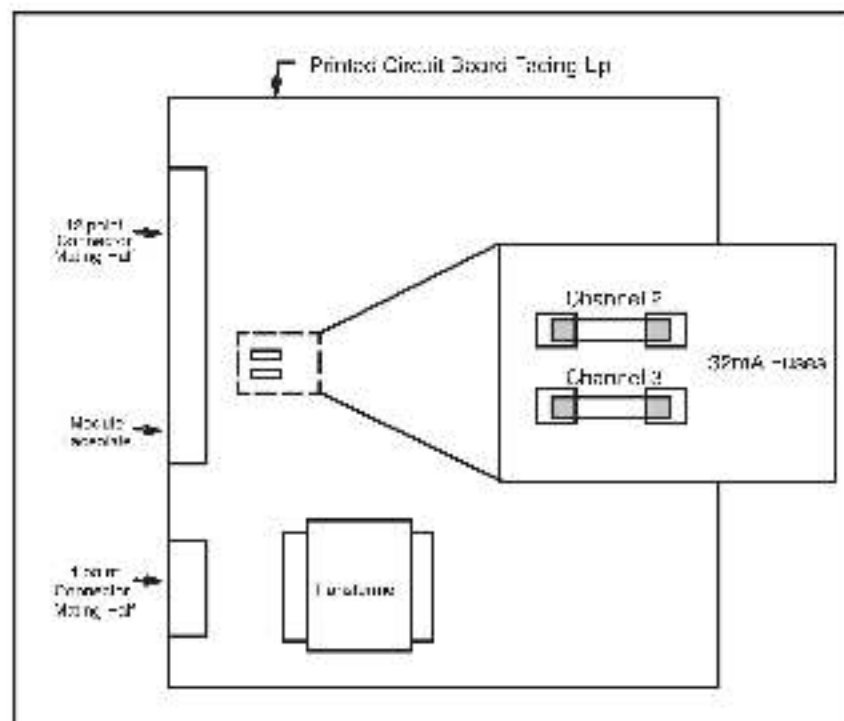

Figure 5.2 - Replacing the 32mA Fuse
- e) Place the metal enclosure side of the left hand piece on a clean surface. Note the position of the fuses from the drawing in figure 5.2. As shown on the drawing, the top fuse (labeled F1) is for channel 2 and the bottom fuse (labeled F2) is for channel 3. The fuses are held in place by spring clips. Remove the blown fuse(s) carefully and discard. Replace the fuse(s) with a new fuse.